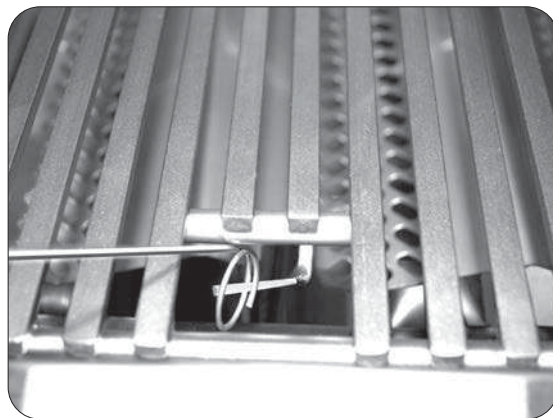

Fig. 25-2 - Manual lighting
2. Insert either a burning long-barrel butane lighter, a burning long-stem match, or a burning match held by a wire extension holder through the cooking grid opening to the top of the burner (Fig. 25-2).
4. If the burner does not light within five (5) seconds of turning the control knob, **immediately depress the knob and turn the valve to OFF**. **WAIT FIVE (5) MINUTES** before repeating steps 2 through 4 of the MANUAL LIGHTING instructions.